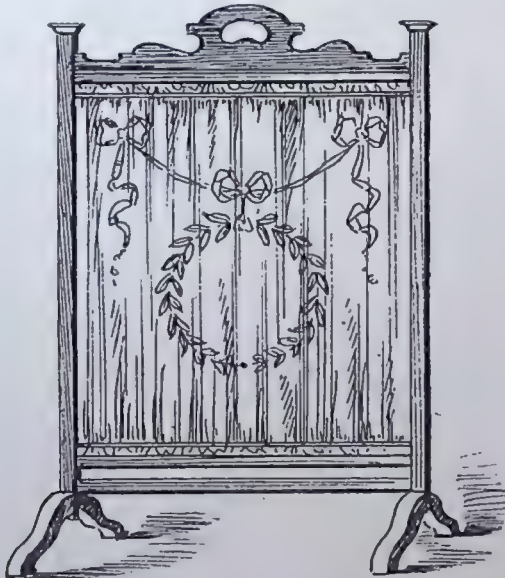

FIG. 1.—CHEVAL SCREEN.
Taking Fig. 1, dimensions may be put at 2 feet by 3 feet 3 inches high. For the framing, two uprights (A, Fig. 3) will be required, 3 feet 3 inches long, $\frac{7}{8}$ inch by $\frac{7}{8}$ inch, to be finished with a short tenon at top and mortised for entry of pediment, rails, and shaped feet below. The cappings (B) can finish 2 $\frac{3}{4}$ ins. by 2 $\frac{3}{4}$ ins. by $\frac{3}{4}$ in. or $\frac{5}{8}$ in. thick, moulded as shown, and mortised for tenons on uprights to enter. The caps may be dowelled in, but unless they are also nailed there is always a tendency for them to twist in course of wear.